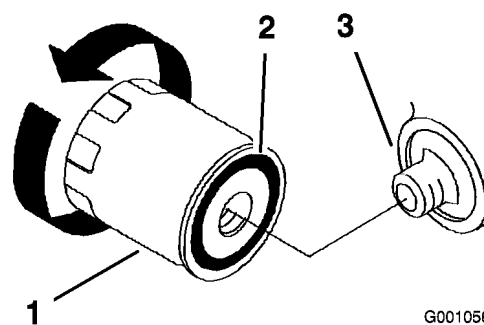

Figure 32
4. Apply a thin coat of new oil to the rubber gasket on the replacement filter (Figure 32).
5. Install the replacement oil filter to the filter adapter. Turn the oil filter clockwise until the rubber gasket contacts the filter adapter, then tighten the filter an additional 1/2 turn (Figure 32).